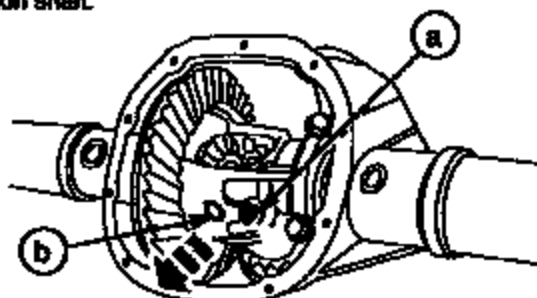

FIGURE 18
2. Remove the differential pinion shaft (refer to Figure 18).